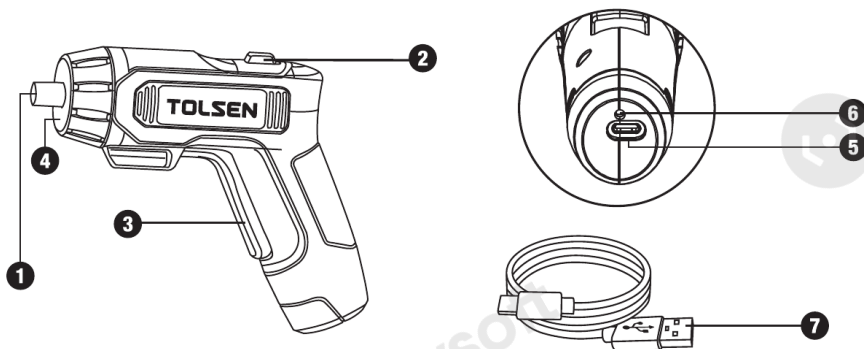

Fig. 1
1. To charge the screwdriver, insert the charger jack into the charging socket ⑤ near the base of the screwdriver handle and plug the charger into a mains socket.
2. The indicator light ⑥ (Fig. 1) will illuminate to indicate that the battery is being charged. When charging is complete (the indicator light is green), unplug the charger from the mains and from the screwdriver.
3. Place a bit into the bit holder ①. Select the required direction with the forward/reverse switch ② (which also locks the direction of rotation) and squeeze the trigger ③ to start the screwdriver. The LED light ④ comes on with initial pressure on the trigger.
4. When you have finished working, remove the bit from the bit holder, pressing the quick-release collar if needed (Fig. 1). Clean the screwdriver and put all parts back into the storage case. Store the case in a safe, dry place out of the reach of children.